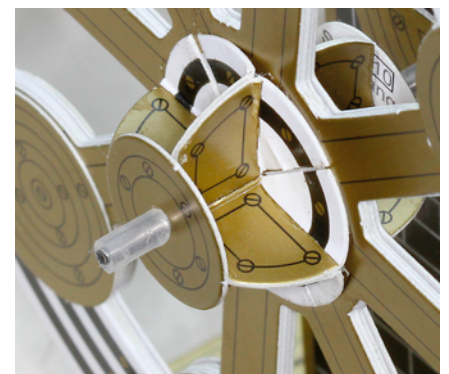

Fig 7: The flywheel hub
Step 68: In the same way glue the backs of one golden segment of each of the remaining parts together and then the two half hubs together to form the complete hub. You should now have a hub with a cross-like cross section as shown in Fig 7.